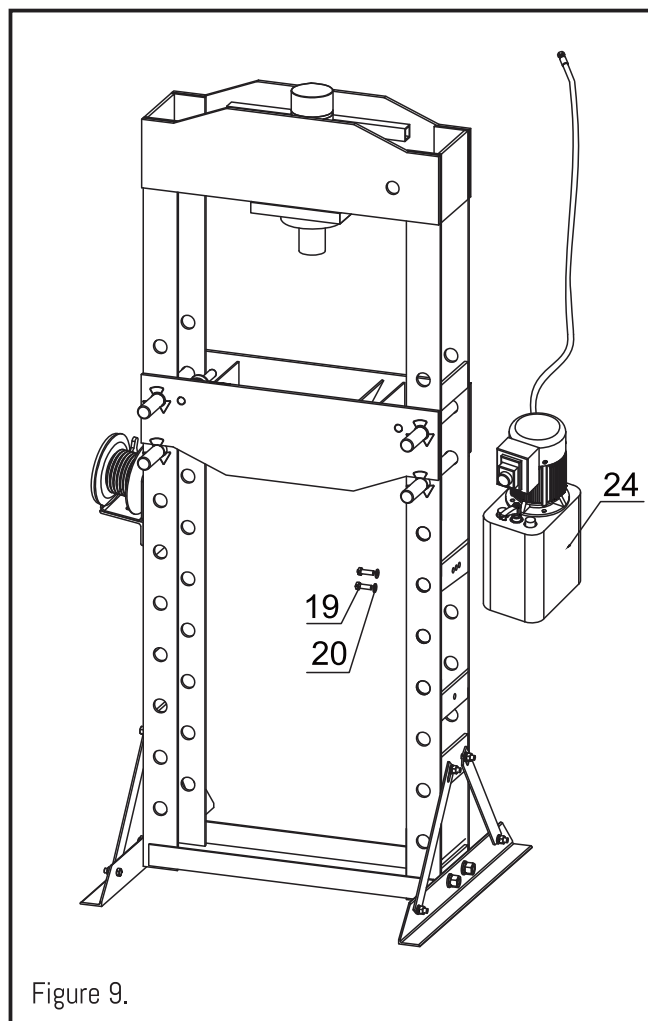

Figure 9.
5. Attach the Pump (24) to the Frame using the Bolts (19) and Washers (20). See Figure 9.